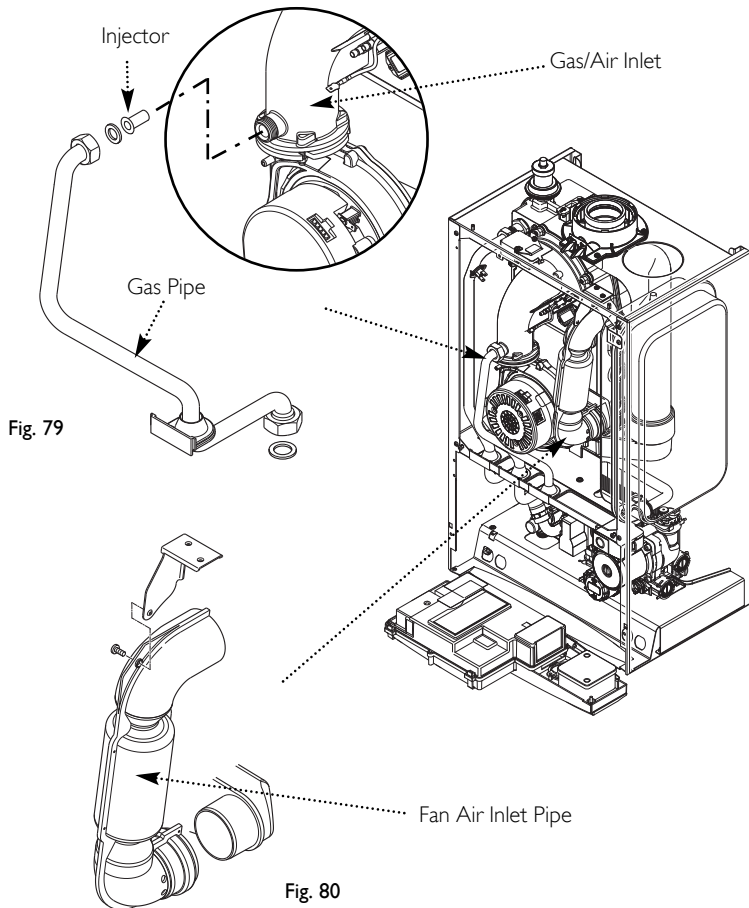

Fig. 80
3. Undo the screw securing the fan air inlet pipe to the bracket on the boiler top panel. Remove the pipe (Fig. 80).